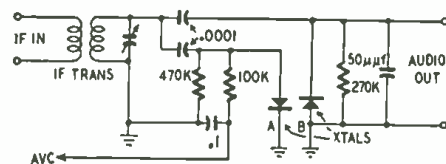

Fig. 4—Superheterodyne circuit using separate crystal diodes for detection and for a.v.c.
A.v.c. voltage can be supplied by a separate crystal diode arrangement, as shown in Fig. 4. Crystal A provides a negative voltage for a.v.c. action; crystal B functions as the second detector,